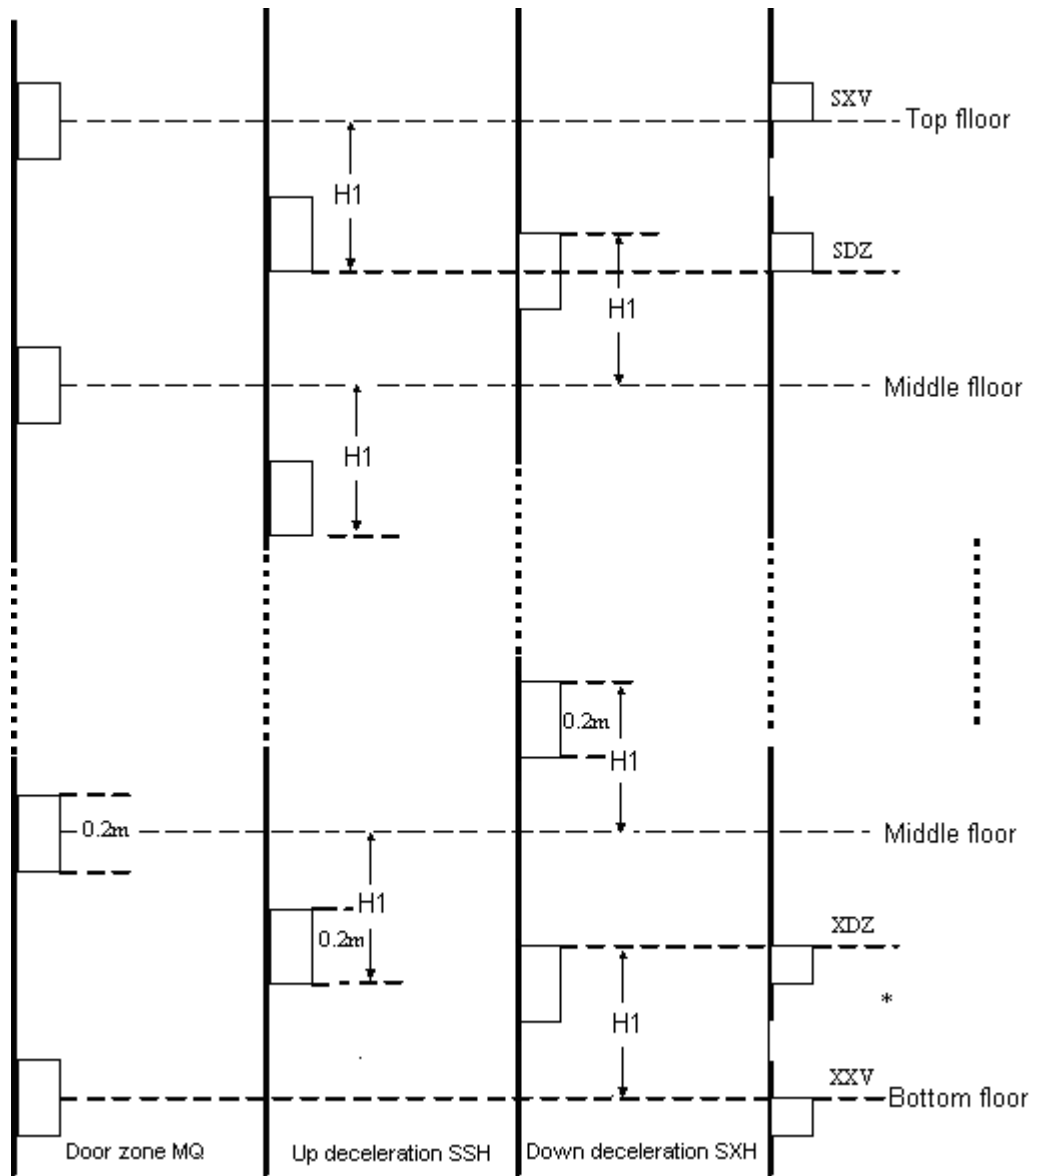

Figure 2-7 Deceleration switch position figure
3) Deceleration switch: There are two deceleration switches on the car top, one is Up deceleration switch (SSH), the other is Down deceleration switch (SXH). The shelter steel panels for the two switches are fixed in the hoistway, their position refers to the following figure 2-7: